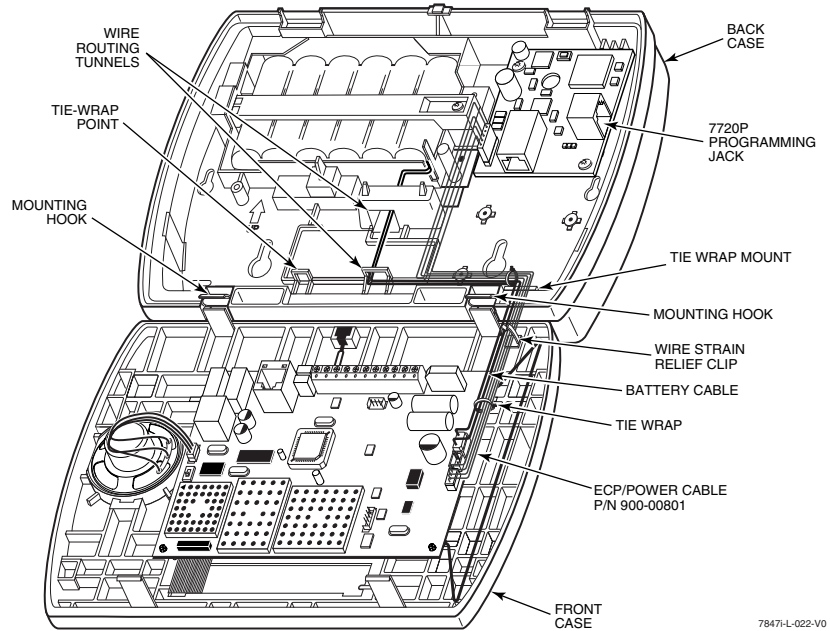

Figure 3 – Lynx Plus Cable Routing
1. To ensure proper communications, route the cables as shown in Figure 3.